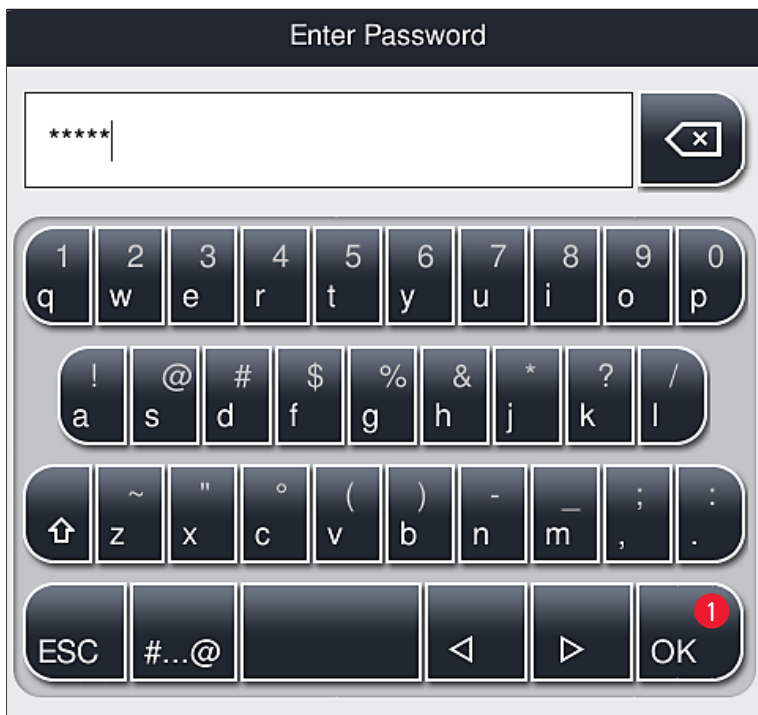

Fig. 28
2. A keyboard (→ Fig. 28) is then displayed which can be used to enter the password.